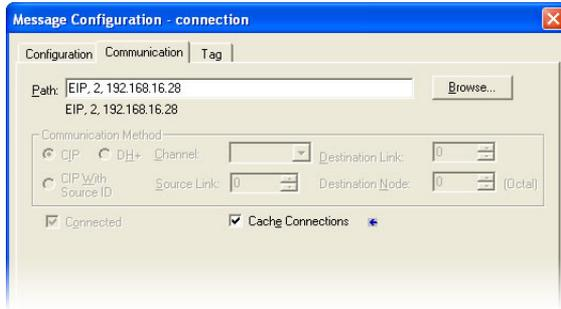

Figure 105: Setting the Communication Path
- d) "Communication" tab settings (refer to Figure 105):